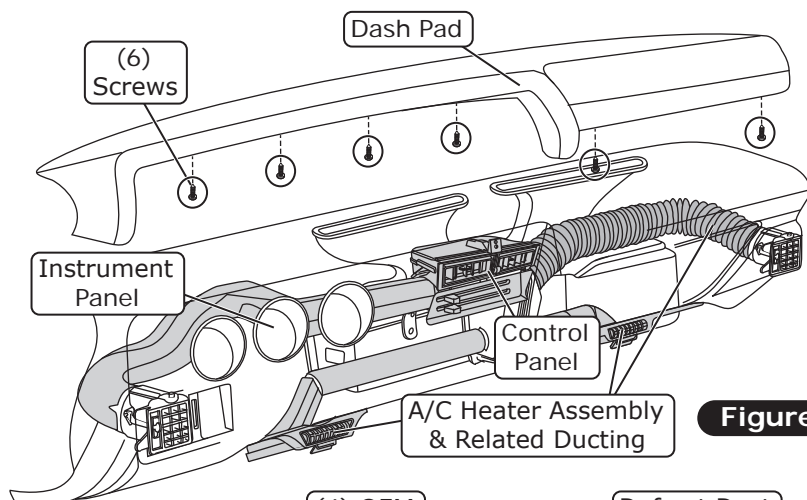

Figure 1
6. Remove the (2) under dash louver assemblies (discard) (See Figure 1, below).